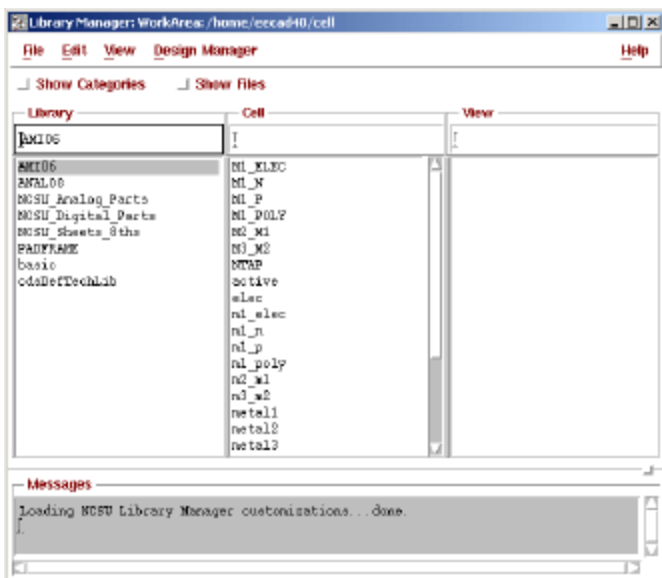

Figure 10: Updated library manager showing AMI16 project directory.
4. Your library manager should now show your new project directory as in Figure 10. Make sure that your library has all the components listed in column 2 for Figure 10.
1. Goto the library manager popup and goto: file... New... cell view. A pop-up like Figure 10 should appear.